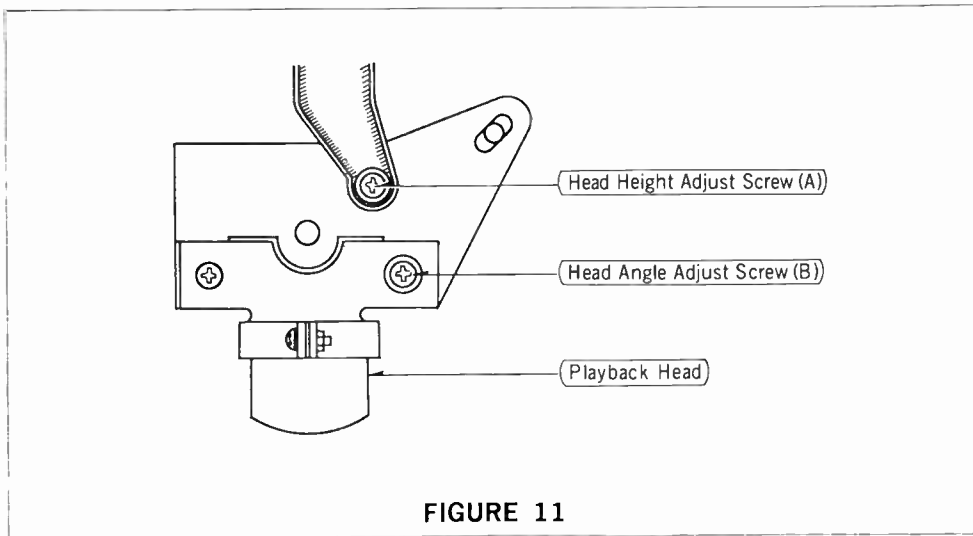

FIGURE 11
2. Make an adjustment with the unaided eye by using the adjustment screw (A) shown in figure 11, so that